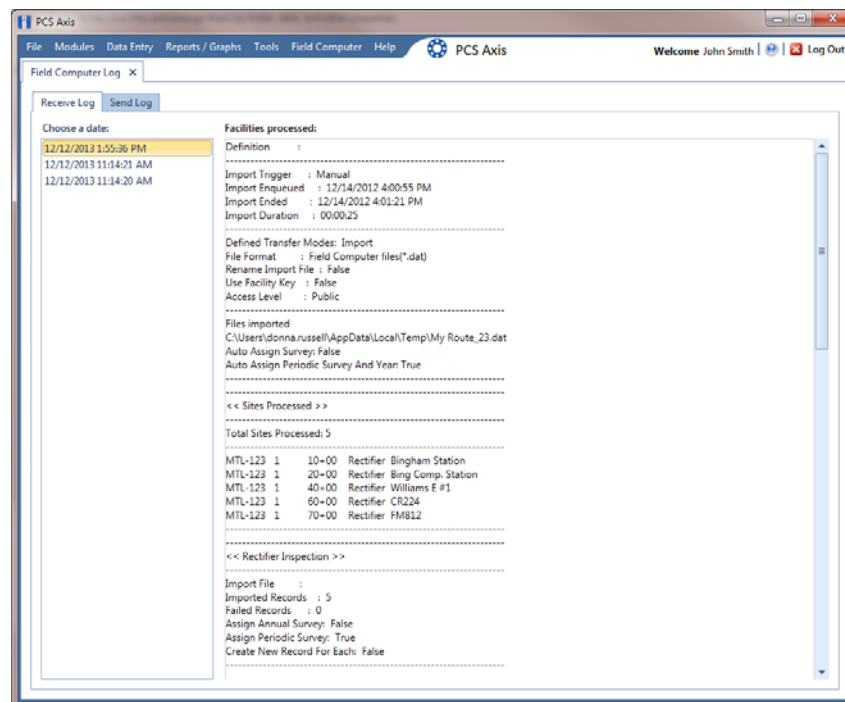

Figure 13-39. Field Computer Log / Receive Log
- 1 Click **Field Computer** > **Log** to open the *Field Computer Log* window (Figure 13-39).